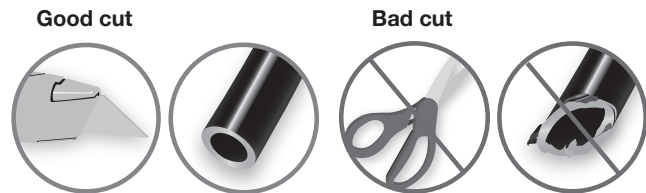

Fig. 15
4. If installing a single-path air line, choose a location for the tee fitting on the wheel well or front bumper. Determine and cut adequate length of air line (D) to reach to the tee from left and right side air springs. Make clean, square cuts with a razor blade or hose cutter (Fig. 15). Do not use scissors or wire cutters.